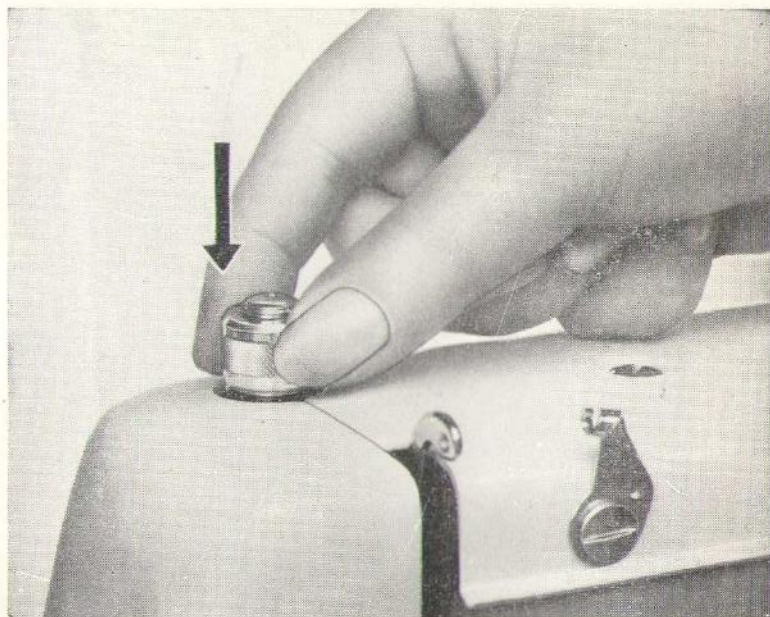

Fig. 18
To release the pressure for darning, embroidering and monogramming push down the release ring to the direction of arrow (Fig. 18).
*Release presser foot. (Fig. 18.)*